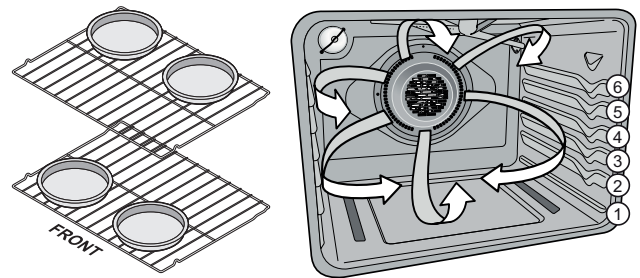

Figure 15: Pan spacing for two rack baking and oven rack positions
- When using 2 oven racks place racks in positions 3 and 5 for and position cookware as shown in Figure 15.